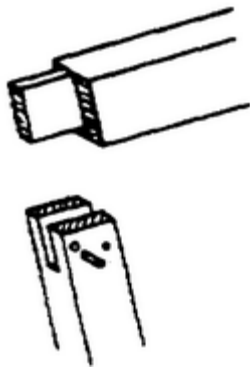
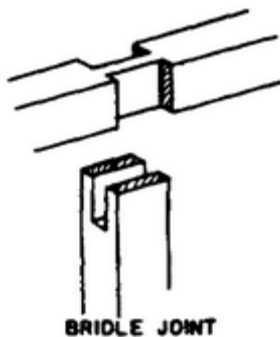

Figure 6. Open mortise and tenon joints.
Figure 7. Bridle mortise and tenon joints.
a. *Open mortise and tenon joints.* These joints are sometimes called slip joints, as illustrated in figure 6. As you can see, the mortise is cut completely through the end of one piece, which is open on three sides, and the tenon is slipped into this open mortise. It is a strong joint and can be used on various types of frames. This type of mortise and tenon joint can be nailed, screwed, pegged, or glued for added strength. Another version of this type of joint is the bridle joint, illustrated in figure 7. However, in this version one member is joined in the center.